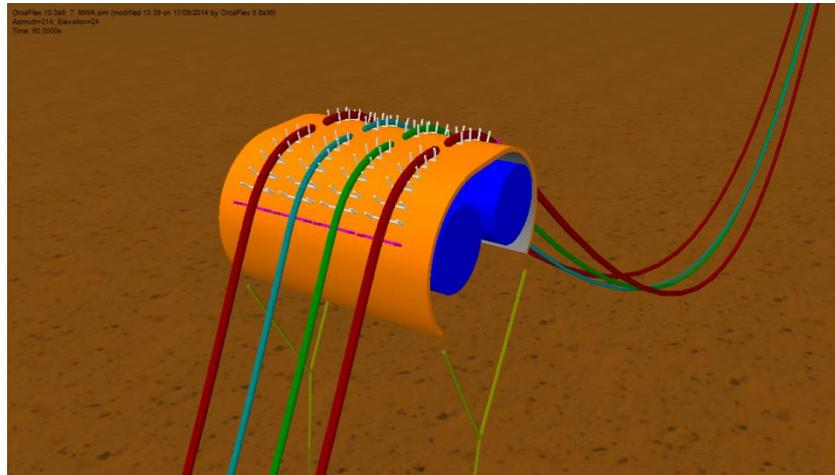

Figure 6-2: Supports Used to Model Mid Water Arch Gutters
- Midwater arch gutters (Figure 6-2)